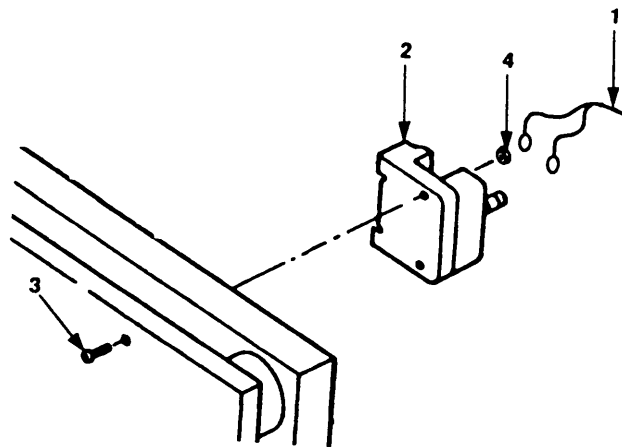

Figure 4-49. Relay K2 Removal and Installation.
- a. Tag and disconnect wires (figure 4-49, 1) from relay (2).
- b. Remove two screws (3) and nuts (4) from front of control panel assembly.
- c. Remove relay (2) from control panel.
- a. Position relay (2) in place on back of control panel assembly.
- b. Install two nuts (4) and screws (3) into relay (2) through front of control panel.
- c. Connect wires (1) to relay (2) and remove tags.